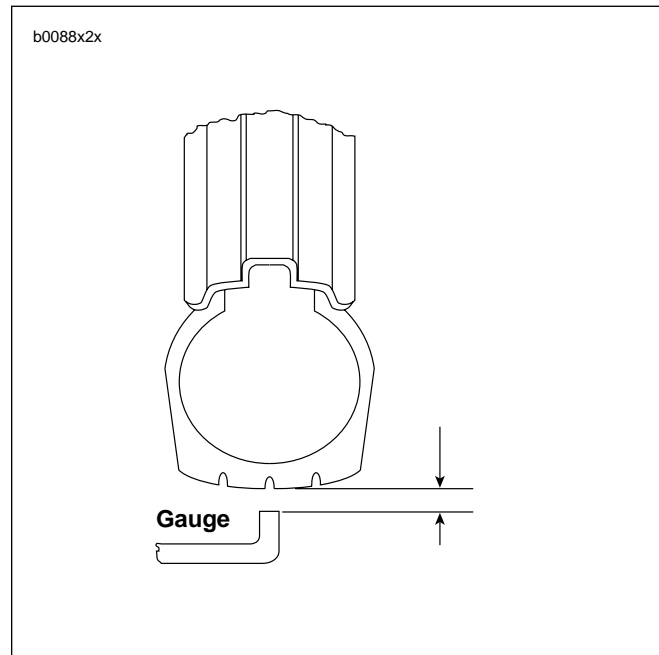

Figure 2-35. Checking Tire Radial Runout
1. See Figure 2-35. Turn wheel on axle and measure tread radial runout.